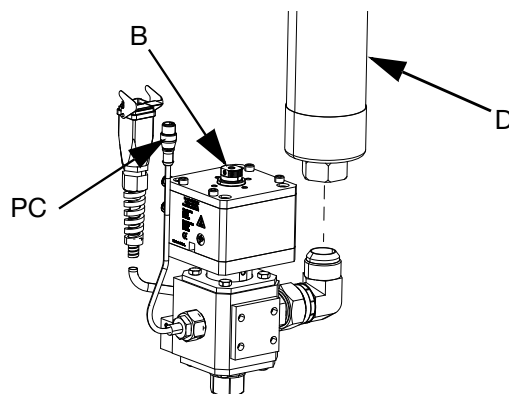

FIG. 22
7. If two hoses are used, connect Supply Hose 2 (D) to the inlet fitting on the Dispense Valve (B). If only one hose is used, connect Supply Hose 1 (C) to the inlet fitting on the Dispense Valve (B). See FIG. 22.